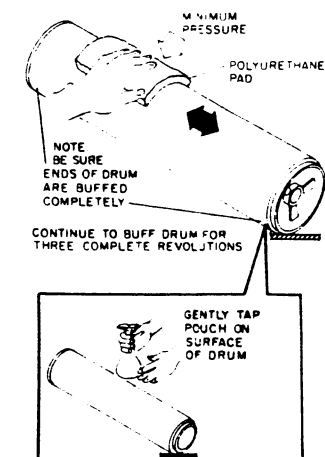

Figure 4. Lubricating the Drum 60-RAVN-153
5. APPLY A THIN LAYER OF ZINC STEARATE ON ENTIRE SURFACE OF DRUM BY SOFTLY TAPPING DUSTING POUCH ON DRUM SURFACE (FIGURE 4).